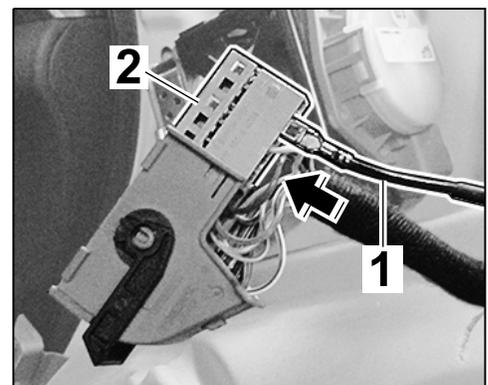

Figure 15
- 2.5.5 Insert socket contact ⇒ *Figure 15 -1-* into chamber A2 of the grey plug socket ⇒ *Figure 15 -2-*.